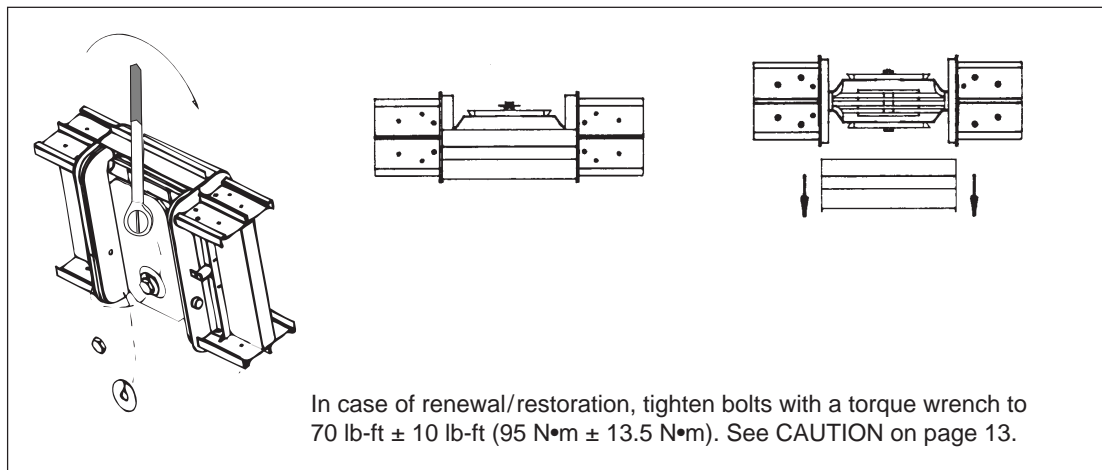

Figure 12
3. Tighten busway joint bolts (figure 12).